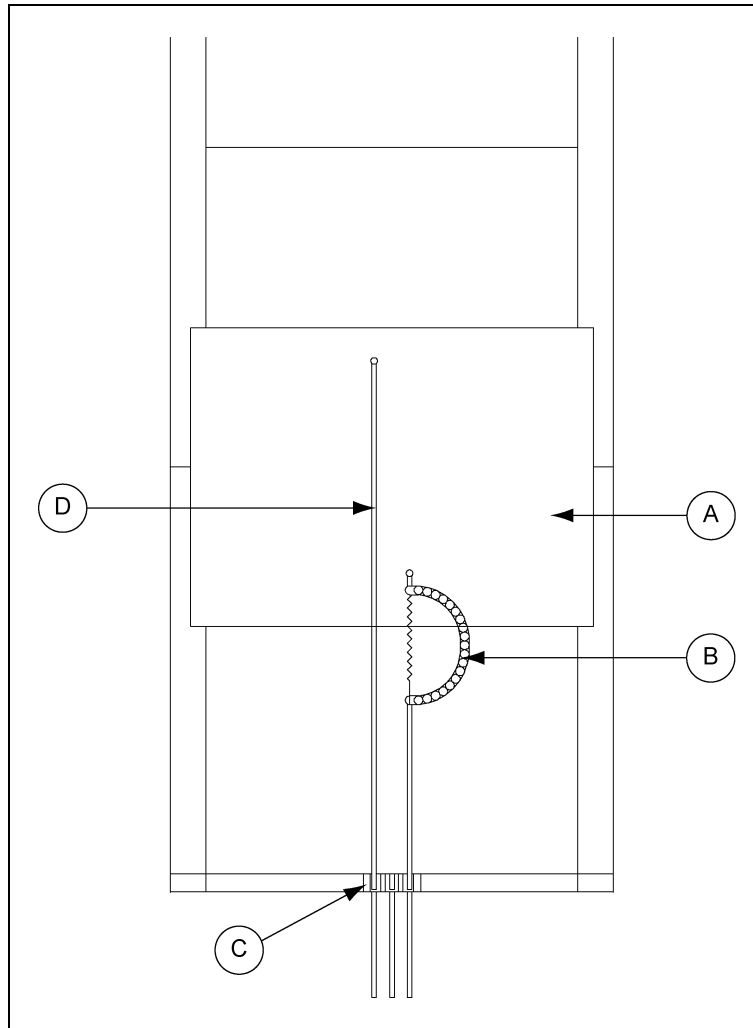

Figure 2C
1. Connect the two (2) cable assemblies (D) to the damper by putting each eye bolt through one of the holes in the damper (A) with a nylon washer on each side of the damper and securing with a lock nut on the other side. It does not matter which assembly goes in which hole.
2. Slip each of the loose ends of the cable assemblies through one of the outside pulleys (C) on the pulley bracket assembly. (See Figure 2C.)